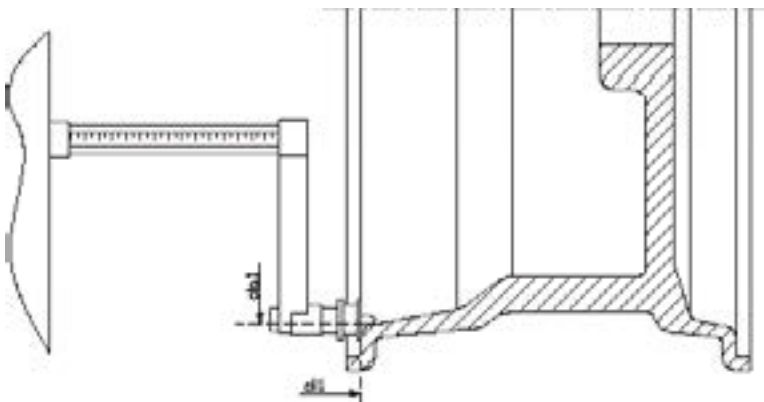

Figure F3.7 - Automatic acquisition of the internal plane distance in the ALS1 Programme Type
2. Extract the Distance/Diameter sensor and place it on the plane chosen as the internal plane. The point of support differs depending on whether the ALS1 or ALS2 programme has been enabled. See figures F3.7 and F3.8;
3. Extract the Distance/Diameter sensor and place it on the rim that corresponds to the internal plane chosen to apply the balancing weight. See figure F3.7 for the ALS1 Programme Type and figure F3.8 for the ALS2 ProgrammeType;